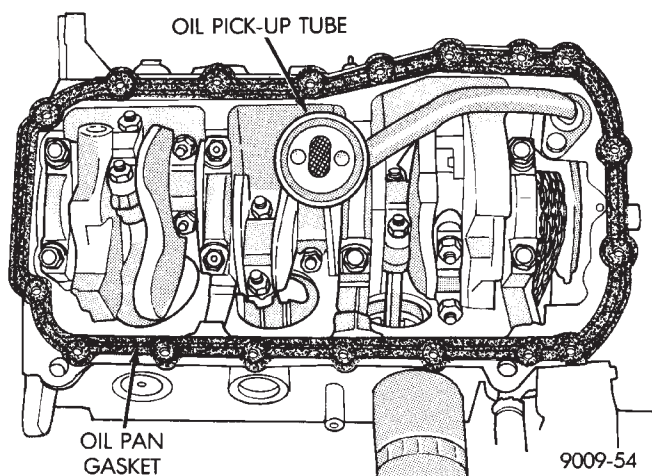

Fig. 49 Oil Pan Gasket Installation
(2) Use a new pan gasket (Fig. 49).
(3) Install pan and tighten screws to 12 N·m (105 in. lb.).
(4) Install inspection cover and transmission support bracket.
(5) Install sway bar.